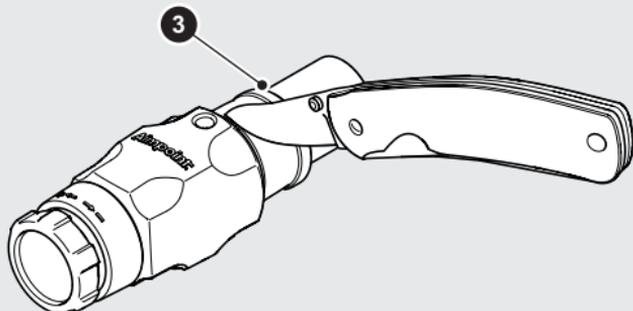

Fig. 2 Cut away rubber cover
The mounting surface (3) of the 6XMag-1 allow for mounting to any 30 mm diameter ring mount when the rubber cover is cut away, see Fig. 2.